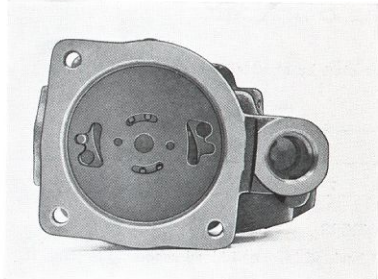

Fig. 6-111. Outer plate fitted
10. Fit the plate (18) on the intermediate piece according to Fig. 6-111. The pin should be in one of the two outer holes.